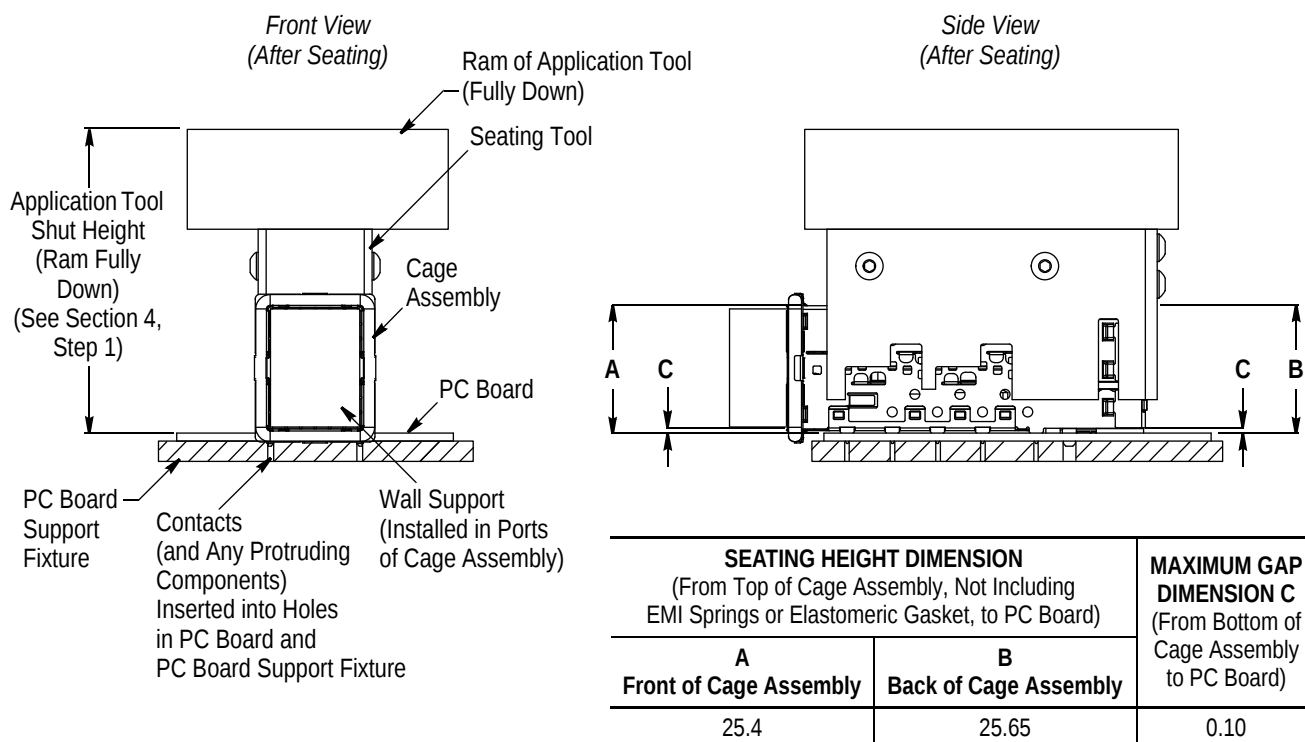

Figure 2
1. Set tool seating height to the dimension shown in Figure 2 (application tool shut height will equal the tool seating height PLUS the combined thicknesses of the pc board and support fixture). After seating, a gap of no more than 0.10 mm [.004 in.] between the bottom of the cage assembly and the pc board is allowed.
5. SEATING (Figure 2)
- the connector and cage assembly is seated on the pc board with seating heights (front and back)—measured from the top of the cage assembly (not including the springs or elastomeric gasket) to the top of the pc board—given in Figure 2